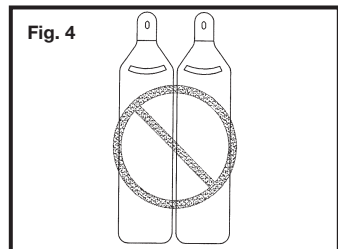

Fig. 4
**6. Never use oxygen or other bottled gasses.** Explosion will occur. Never use combustible gases or any other reactive gas as a power source for this tool: explosion and serious personal injury will result. Fig. 4.